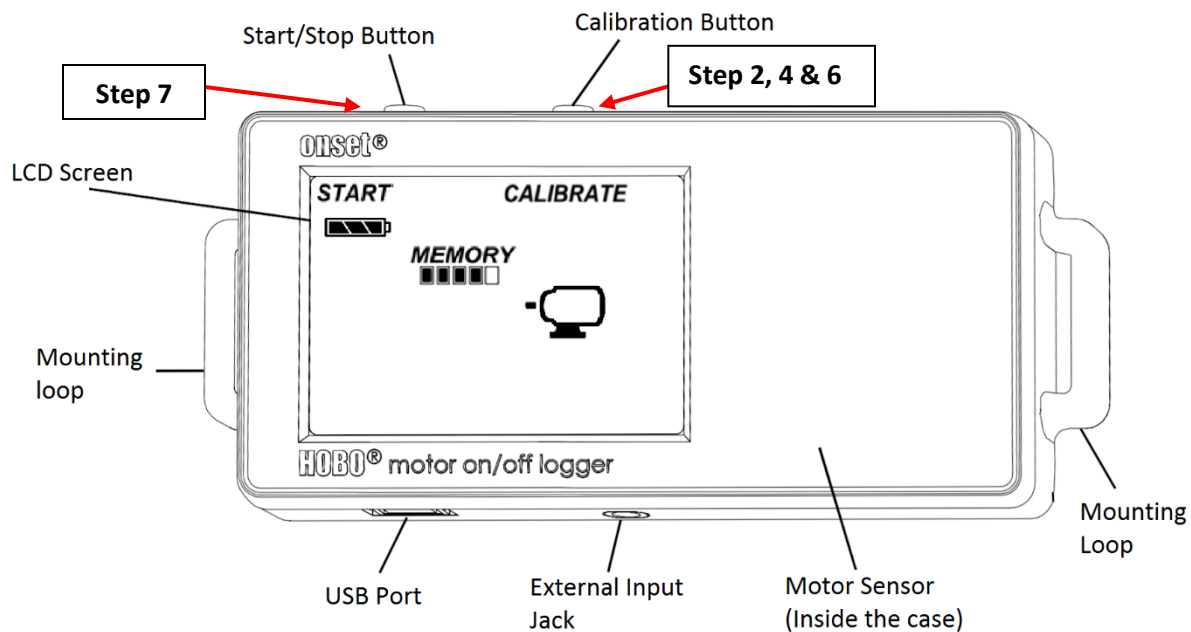
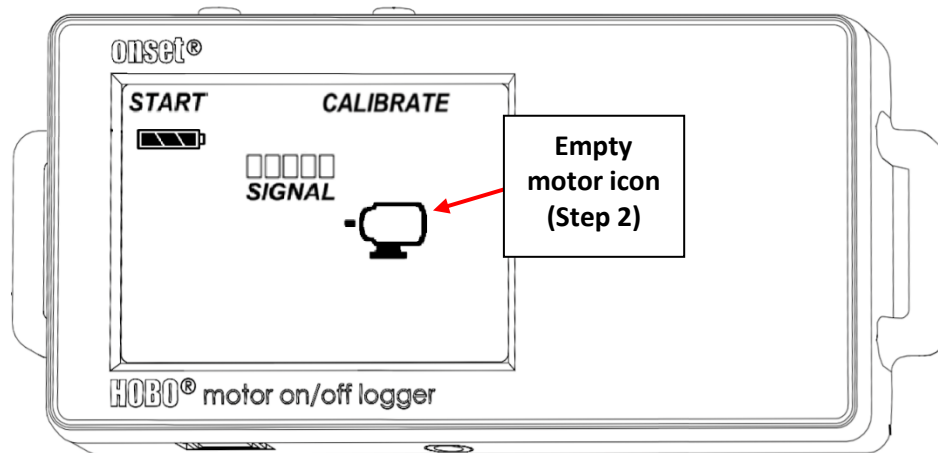

Figure A.1.9: A labeled diagram of the onset HOBO motor on/off data logger with initial startup screen.
Figure A.1.10: The HOBO motor on/off data logger with LCD screen displaying the word “SIGNAL” and its corresponding signal strength bars.
1. Ensure that the LCD screen displays what is shown on Figure A.1.9.
2. Press and hold the Calibration Button (Figure A.1.9) until “MEMORY” and the five bars underneath as shown on Figure A.1.9 are replaced with “SIGNAL” and 5 empty bars right under as shown in Figure A.1.10. The bars right under the word “SIGNAL” should be empty because the motor is off. The empty motor icon shown on the same figure also indicates that the motor is off.
6. The LCD screen will revert to what is shown on Figure A.1.9 (with the motor icon filled instead of empty) after following step 5. Press the Calibration Button again and ensure that the signal strength is still the same as it was on Step 3.